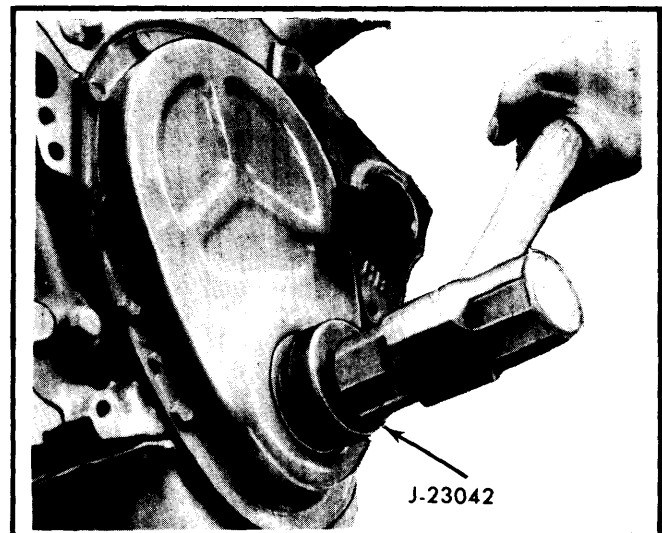

Fig. 8 Front Cover Oil Seal Installation
**Front Cover Removed From Engine** — Pry old oil seal out of cover from front side with screwdriver. Support cover at sealing area and install new seal with open end of seal toward inside of front cover. Drive into place with suitable tool (J-23042) (see Fig. 8).